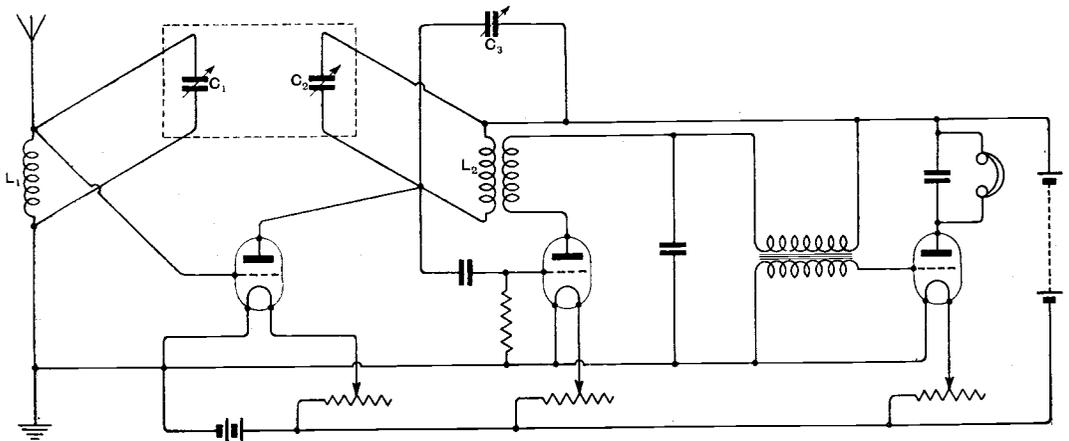

Fig. 8. Schematic wiring diagram.
of this description is the "centre-zero balancing condenser." The functions of this condenser can best be seen by an inspection of the schematic connection diagram of the set which is given in Fig. 8. This diagram gives only the essential features, omitting details of range, switches, etc. It will be noted that C_1 C_2 is the double variable tuning condenser which has just been described. The balancing condenser is C_3 . It is connected across the anode circuit tuning condenser C_2 in the same way that the aerial is connected across the primary tuning condenser C_1 . This balancing condenser
- (1) Balancing of aerial capacity when aerial is changed.
- (2) Balancing the changes in the effective capacity of the aerial for different wavelengths, giving a vernier adjustment to the tuning.
- (3) Balancing out any differences between the two tuning coils $L_1 L_2$ (Fig. 8) on the different tapings.